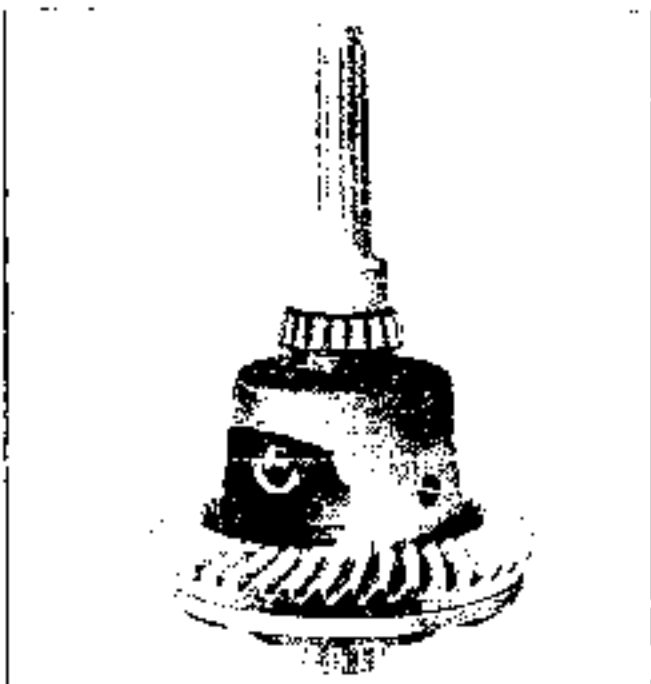

Fig. 4B-8 Installing Differential Side Bearing
4. If side bearings were removed, lubricate the bearings and install on case hubs, as shown in Fig. 4B-8, using tool J 5293.